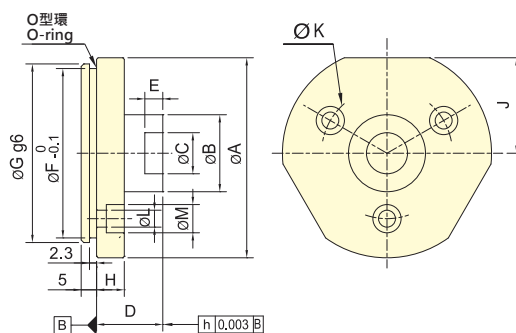

Fig.20
- 基準面應該有足夠的硬度和精度。(參考Fig.20)
- The datum face should have sufficient hardness and accuracy.(refer to Fig.20)